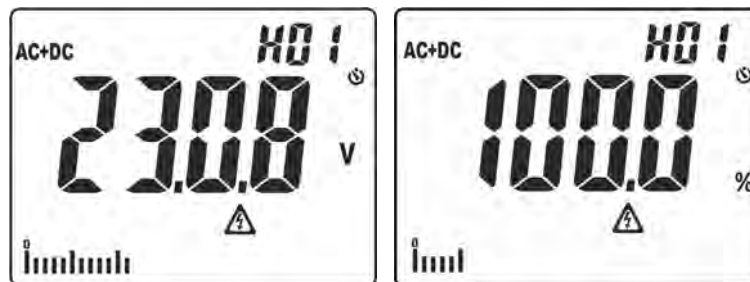

Fig. 3: Display of amplitude of harmonic analysis
- Simple pressing of the key to display the amplitude of voltage and current harmonics up to the 25th (**Hdc**, **H01... H25**) in absolute or percentage format in relationship with the fundamentals of input signals (for voltage values  $V_{AC} > 0.5V$  and current values  $AC > 0.5A$  and frequency in the range  $42.5Hz \div 69Hz$ ) and the percentage value of parameter **THD%** (see § 9.4) as shown in Fig. 3. Use keys  $\blacktriangle$  and  $\blacktriangledown/\text{Ⓜ}$  to increase/decrease the order of the harmonic.